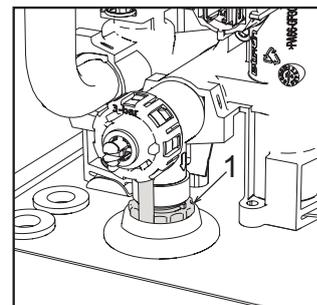

fig. 49 - Safety valve with drain tap
The drain tap ring is positioned under the safety valve located inside the device. To drain the system, turn the ring (ref. 1 - fig. 49) anti-clockwise to open the tap. Do not use any tools and only use your hands.